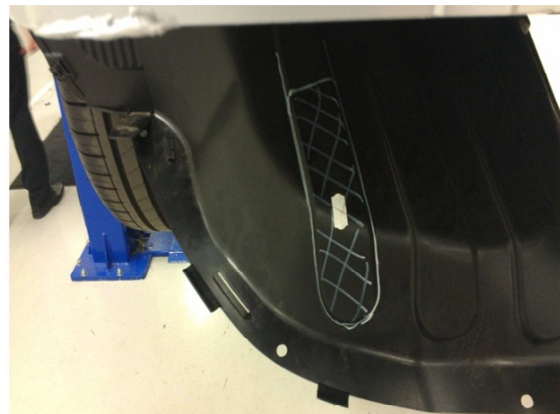

Figure 2
8. Trim passenger side under panel guard using the left most indentation as a template. (Figure 2)